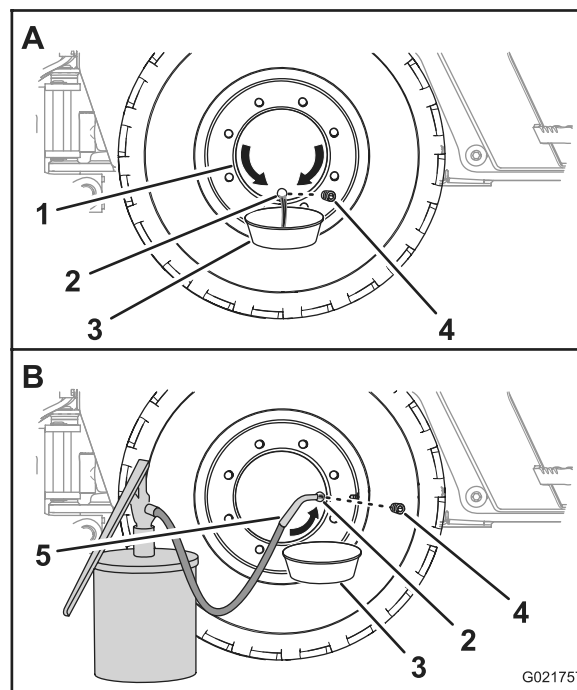

Figure 90
1. Move the machine forward or backward until the oil plug for the wheel hub is at the 6 o'clock position (Figure 90).
2. Place a drain pan under the oil port of the wheel hub (Figure 90).
3. Remove the plug and drain the oil from the planetary (Figure 90).
5. Move the machine forward or backward until the oil plug for the wheel hub is either at the 3 o'clock or the 9 o'clock position (Figure 90).